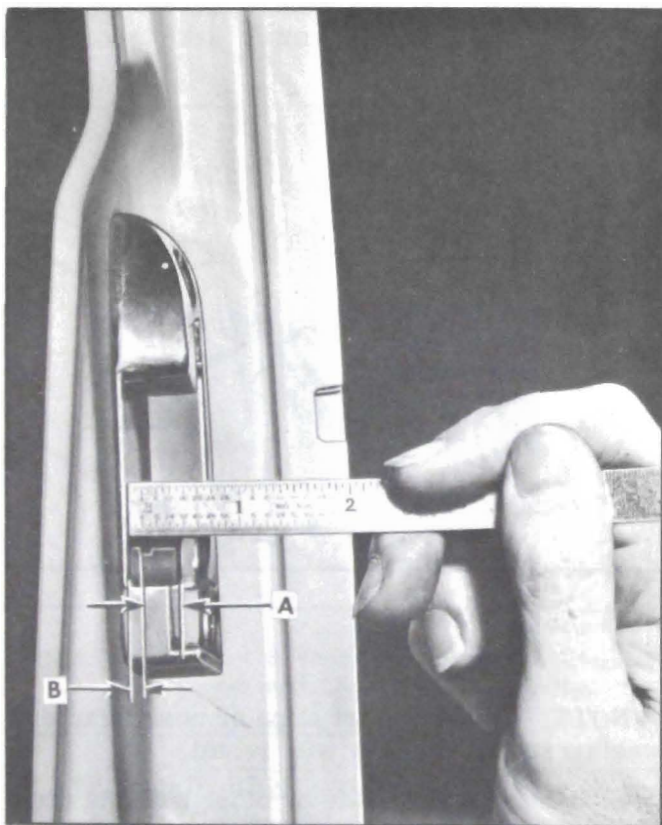

Figure 13-30—Door Lock Striker Engagement Check
2. To determine if door lock striker emergency spacers are required, apply modeling clay or body caulking compound in door lock striker notch where lock extension engages, and then close door to form measurable impression in clay or caulking compounds as shown in Figure 13-30.